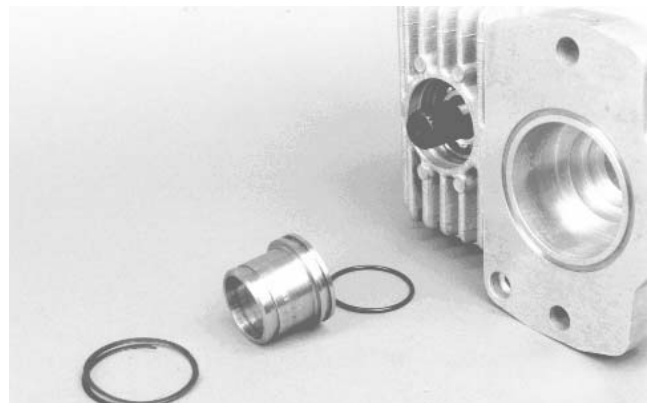

Figure 50
14. Remove spiral retaining ring and remove PTO seal guide (with O-ring) from the housing (Fig. 50).